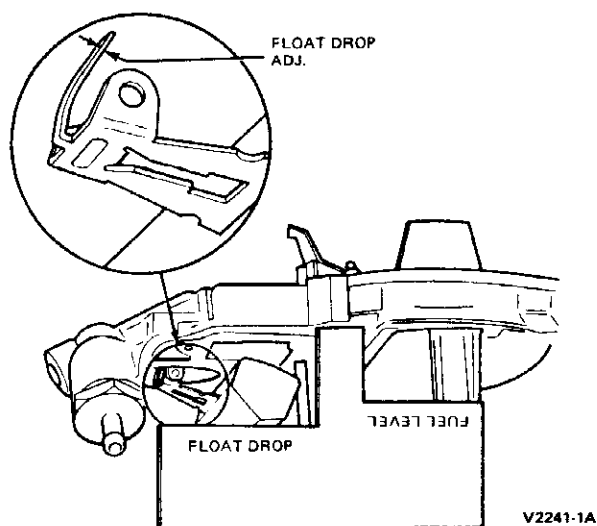

FIG. 22 Float Drop Adjustment
2. With the upper body assembly held in the upright position, place the gauge against the cast surface of the upper body (NOT ON THE GASKET) and measure the vertical distance between the cast surface of the upper body and the bottom of the float (Fig. 22).